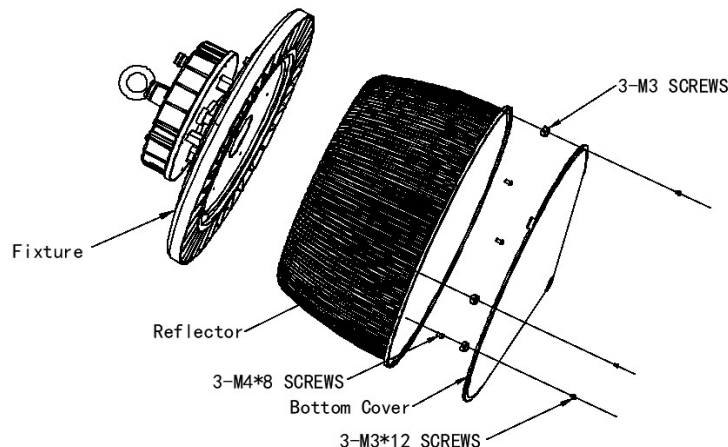

Fig. 10
2. Put the reflector on fixture, let the screws through the slots on reflector. Twist the reflector to block it and tighten the screws. See Fig. 10